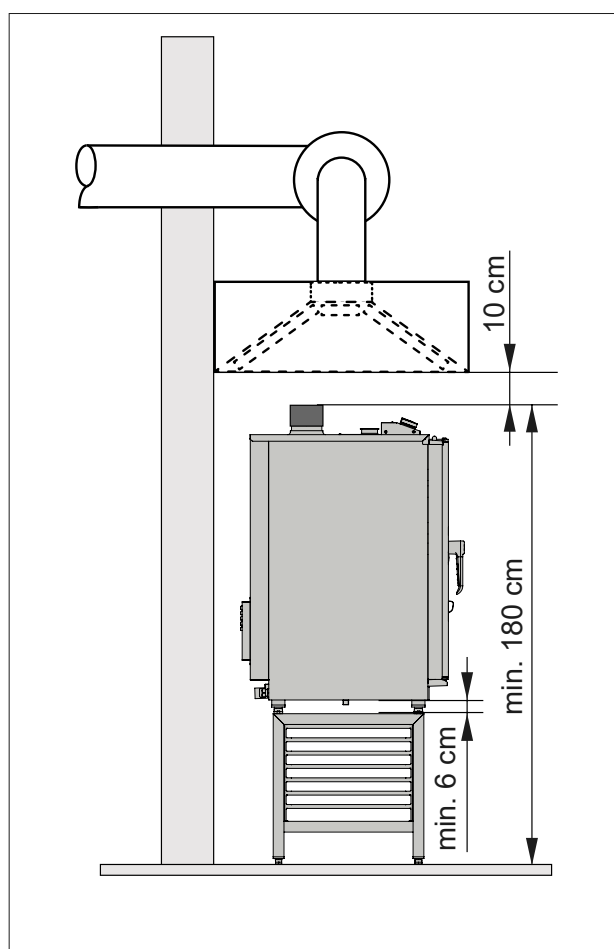

Fig. 2.1B
2.1B Forced fumes evacuation type a3: (Fig. 2.1B)